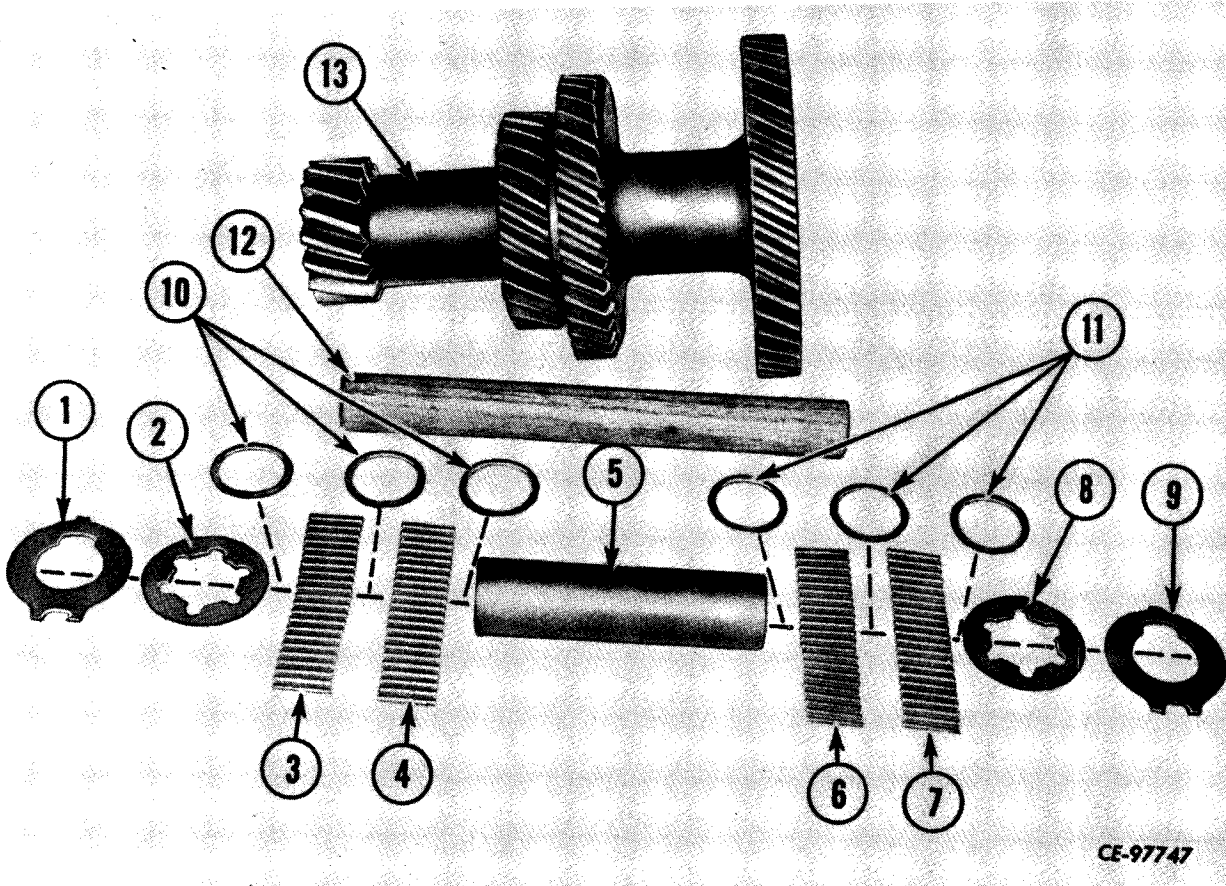

Figure 4-44
Position pilot shaft (12, Fig. 4-44) partially in countershaft gear bore (13) and install bearing spacer (5), spacer (11), twenty-two roller bearings (6), spacer (11), twenty-two roller bearings (7) and spacer (11).